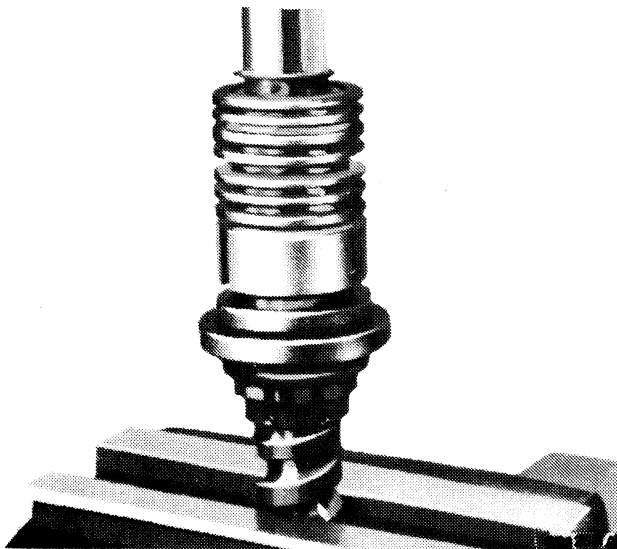

FIG. 12 Worm and Sleeve with Ring Removed
2. Mount the worm end of the worm and valve sleeve assembly into a soft-jawed vise (Fig. 12).